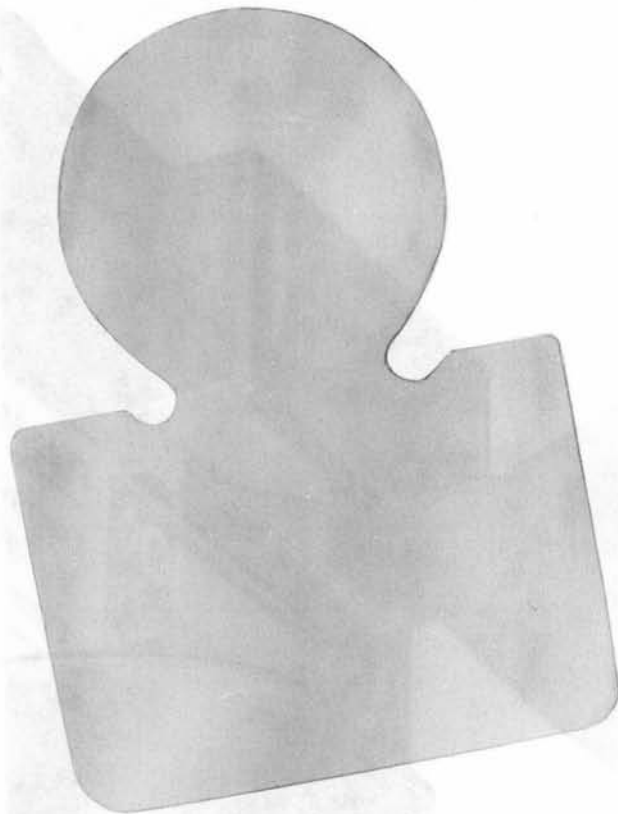

Fig. 44—KS-22551 (Stainless Steel Nonmagnetic) Gauge
- (a) If a KS-22551 gauge shown in Fig. 44 is available, do the following:
- (1) Insert the KS-22551 gauge shown in Fig. 44 into the coin slot until it fits flush against the front of the magnetic coin stop assembly as